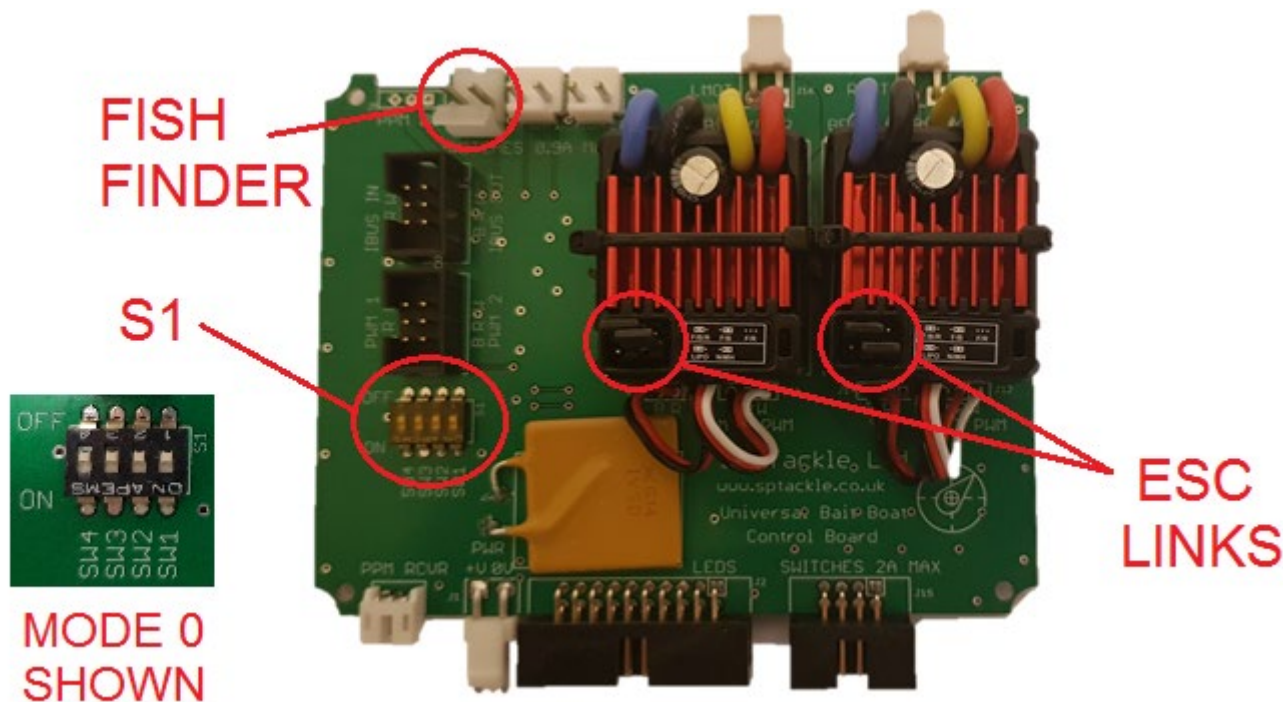

Figure 1 – UCB (Universal Control Board)
9. If the boat is a Mk4 or later fitted with a Fish finder output, the cable is to be plugged into the connector shown in figure 1.